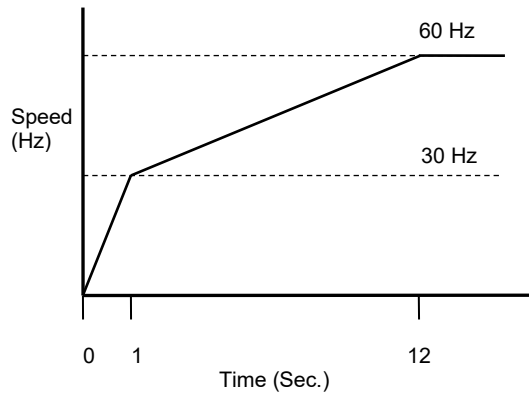

Figure 17 - Default Start-Up Ramp (SUBMERSIBLE PUMP parameter enabled)
- Refer to **Figure 17** for a diagram illustrating connection of the transducer to Control Terminals. AUX2 must be closed to run in the Analog CP Mode (Auto), and AUX 2 is ignored when the speed potentiometer is used (Hand).